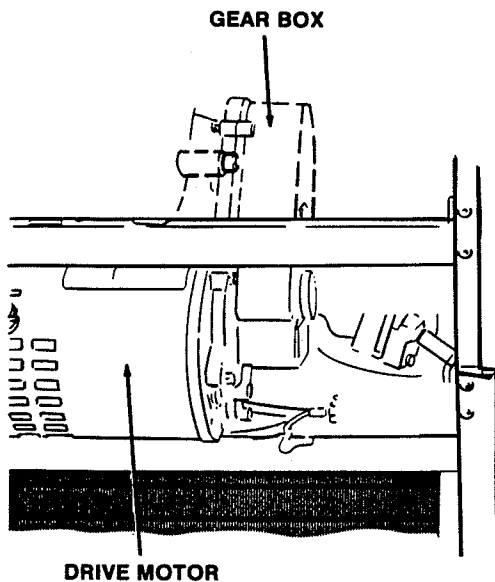

Figure 60. Drive Motor and Gear Box
3. Remove the three socket head screws that secure the drive motor gear box (Fig. 60).